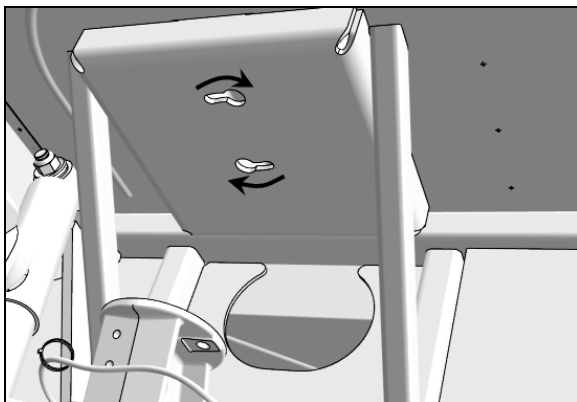

FIGURE 3: AIR SPRING UPPER MOUNTING PLATE
6. Rotate the air spring clockwise (Figure 3) to free the upper attachments from the mounting plate.